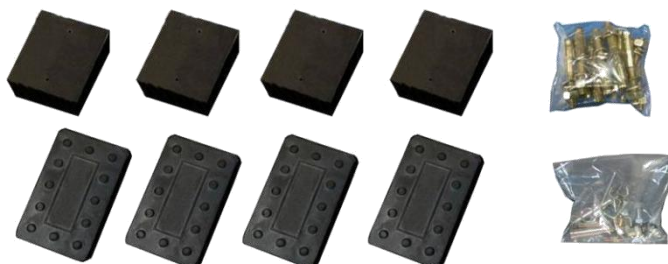

Fig. 6
3. Open the parts box, check the parts according to the part list (See Fig.6).